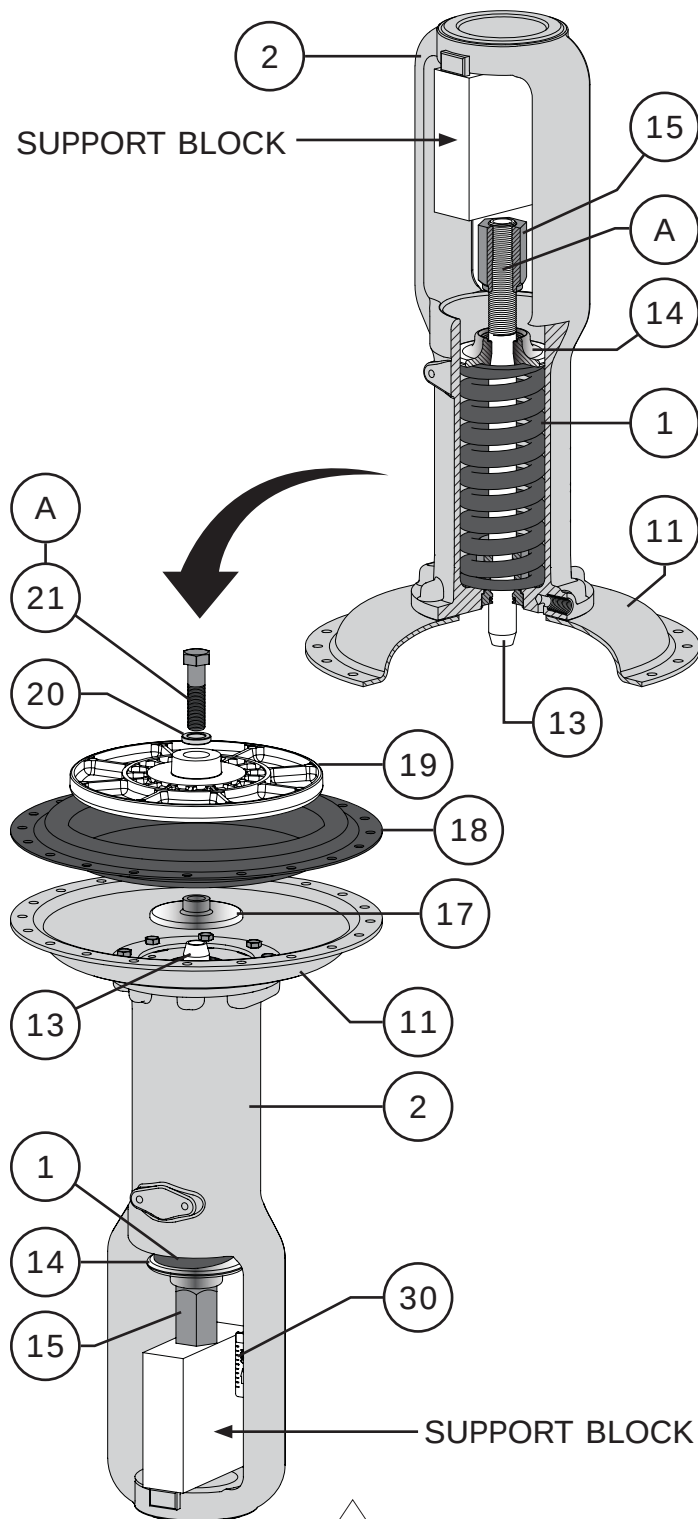

Figure 24 Spring Installation / Upper Diaphragm Casing
- 2 Install the spring (Key 1) into the yoke (Key 2) as shown in Figure 24.
- 3 Clean and slide the actuator stem (Key 13) through the bottom of the yoke (Key 2) and through the bushing. Refer to Figure 24.
- 6 Place a block or spacer between the bottom of the yoke (Key 2) and the bottom of the actuator stem (Key 13). The block or spacer will keep the actuator stem assembly and spring (Key 1) from falling out of the yoke during assembly. Refer to Figure 24.
- 1 Set the lower diaphragm plate (Key 17) onto the actuator stem (Key 13). Refer to Figure 24.
- 2 Place the diaphragm (Key 18) on top of the lower diaphragm plate (Key 17) as shown in Figure 24.
- 3 Set the upper diaphragm plate (Key 19) into the diaphragm (Key 18) and onto the lower diaphragm plate (Key 17) as shown in Figure 24.